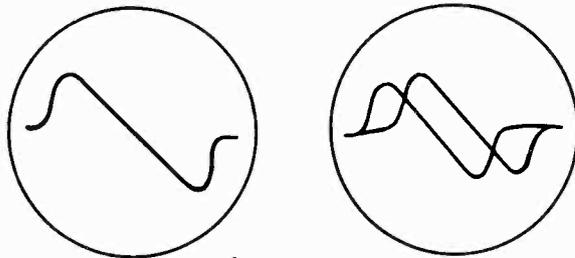

Fig. 4 - S Curves
4. Adjust signal generator frequency until 'S' curve (Fig. 4) is centered on the horizontal sweep. Curve may be reversed because of internal circuit of oscilloscope.